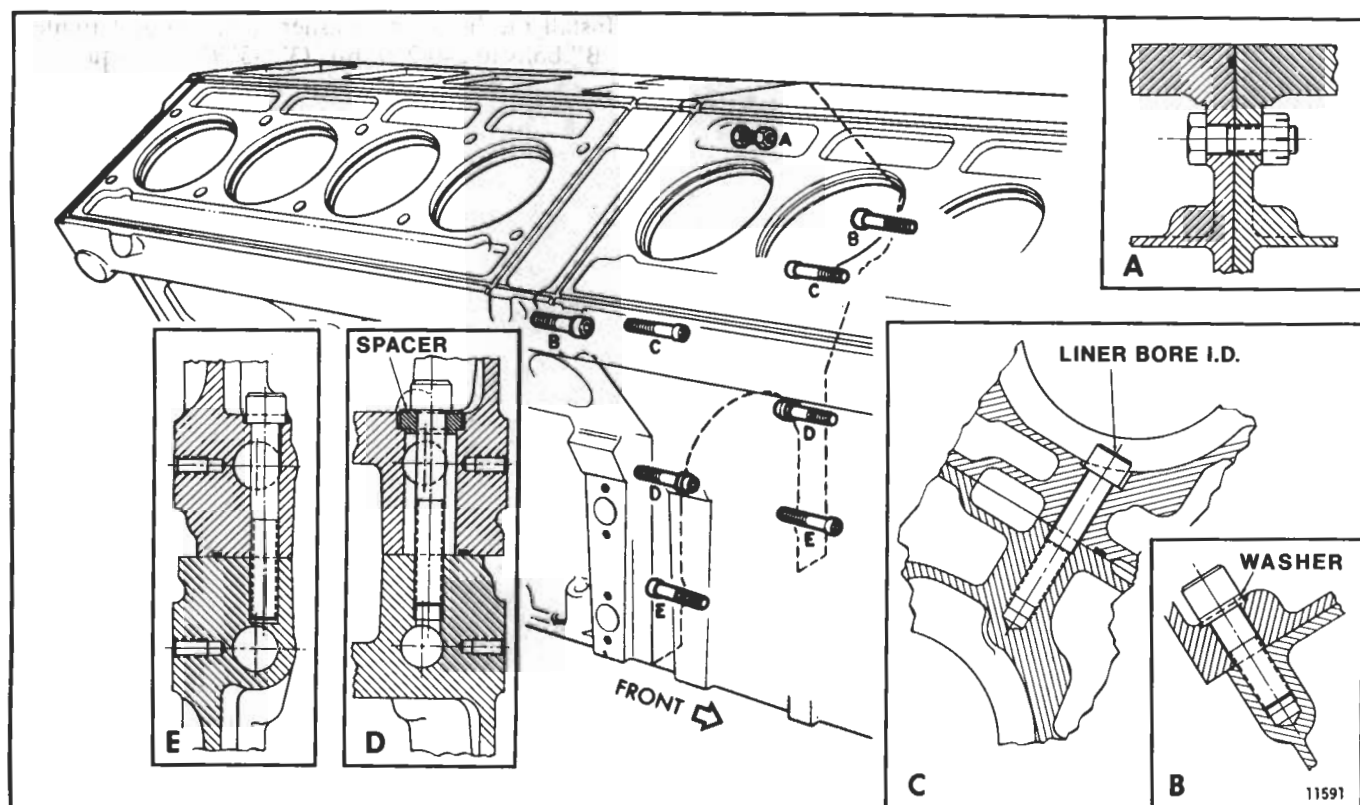

Fig. 8 - Location of Cylinder Block Attaching Bolts
2. Refer to Fig. 8 and remove the two "B" bolts and special washers from the oil drain back cavity.
5. Refer to Fig. 8 and remove the seven remaining bolts A, C, D and E securing the two cylinder blocks together. Also remove the two spacers used on the two "D" bolts shown in inset "D" of Fig. 8. Then lift the front cylinder block off the rear cylinder block and remove the seal strip from the groove in the rear block.
11. Lubricate the threads and the contact face of the cylinder block attaching bolts "A", "C", "D" and "E" with a small amount of International Compound No. 2, or equivalent. Place a spacer on each "D" bolt as shown in inset "D" of Fig. 8. Then refer to Fig. 8
18. Install the bolts and washers (Fig. 8) and tighten the "B" bolts to 240-250 lb-ft (325-339Nm) torque.